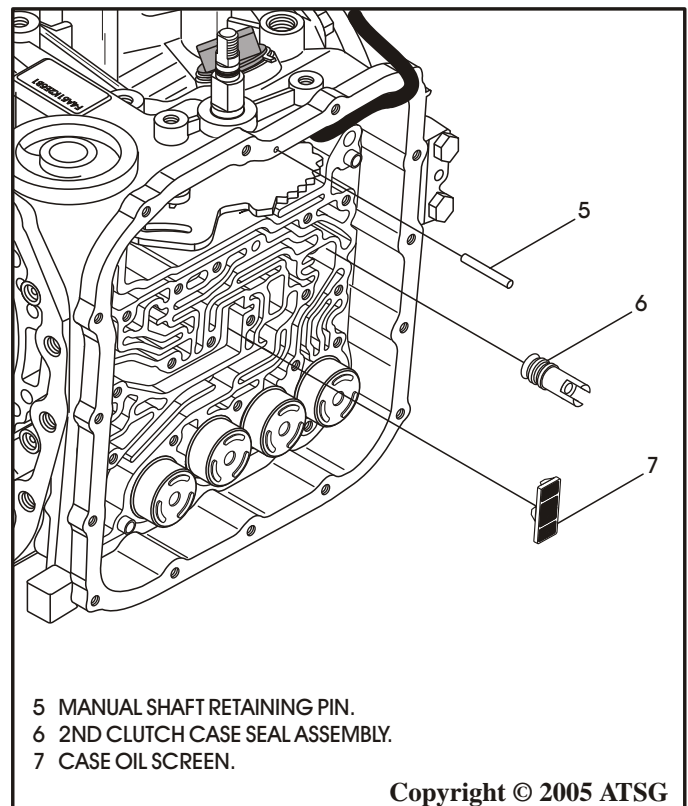

Figure 31
11. Remove the manual shaft retaining pin from pan rail, as shown in Figure 31.
12. Remove and discard the 2nd clutch case seal, as shown in Figure 31.
13. Remove the case worm track oil screen, as shown in Figure 31.